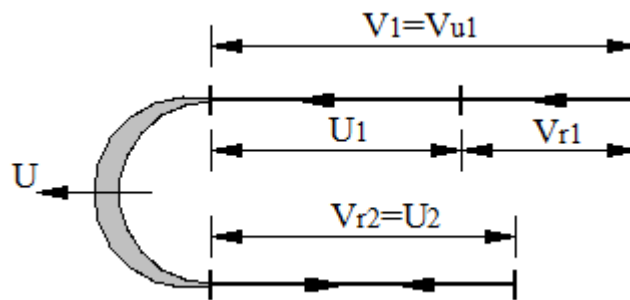

Fig. 3.12 Shape of blade needed to produce  $\epsilon_{max}=1$
**3.4.1.4 Zero-angle Turbine:** When  $\alpha_1=0$  and if the requirements for maximum utilization are maintained ( $V_2 = V_1 \sin \alpha_1 = 0$ ), the velocity diagram collapse into a straight line, results in Zero-angle turbine. The shape of the rotor blade which theoretically achieves  $\epsilon_{max}=1$  is shown in figure 3.12. Evidently the blade is semi-cylindrical in shape, with a turning angle of  $180^\circ$ . This turbine cannot work in practice, since a finite velocity  $V_2$  with an axial component is necessary to produce a steady flow at the wheel exit. However this shows that the nozzle angle should be as small as possible. The turbine that has a rotor-bucket with its shape approximately semi-cylindrical is the Pelton wheel, a hydraulic turbine. Even here, the bucket turns the water through  $165^\circ$  instead  $180^\circ$  so that the utilization factor is never unity in any real turbine.